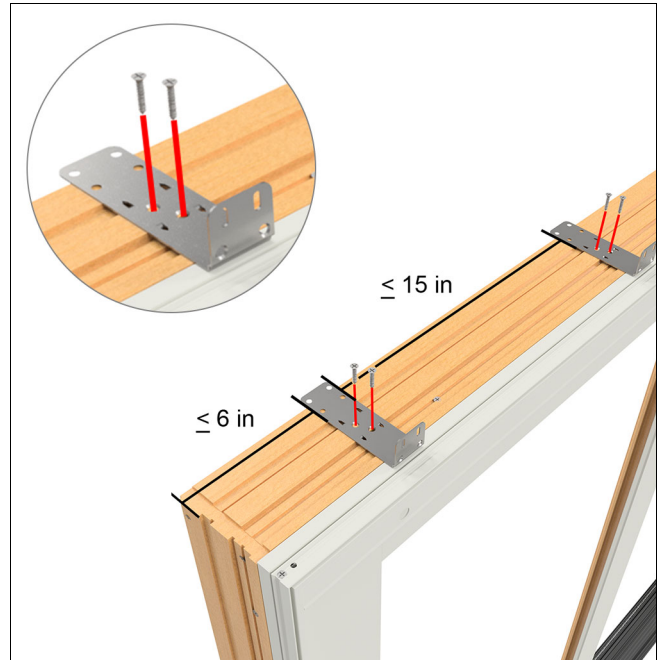

Figure 12
6. On all units, apply structural brackets to the head jamb above the stationary panels once you are ready to place it in the opening permanently. Place the brackets 6"(152) from each corner and a maximum of 15"(381) apart over the stationary panel. Fasten with #8 x 7/8" screws to attach the structural bracket to the unit. See Figure 12.